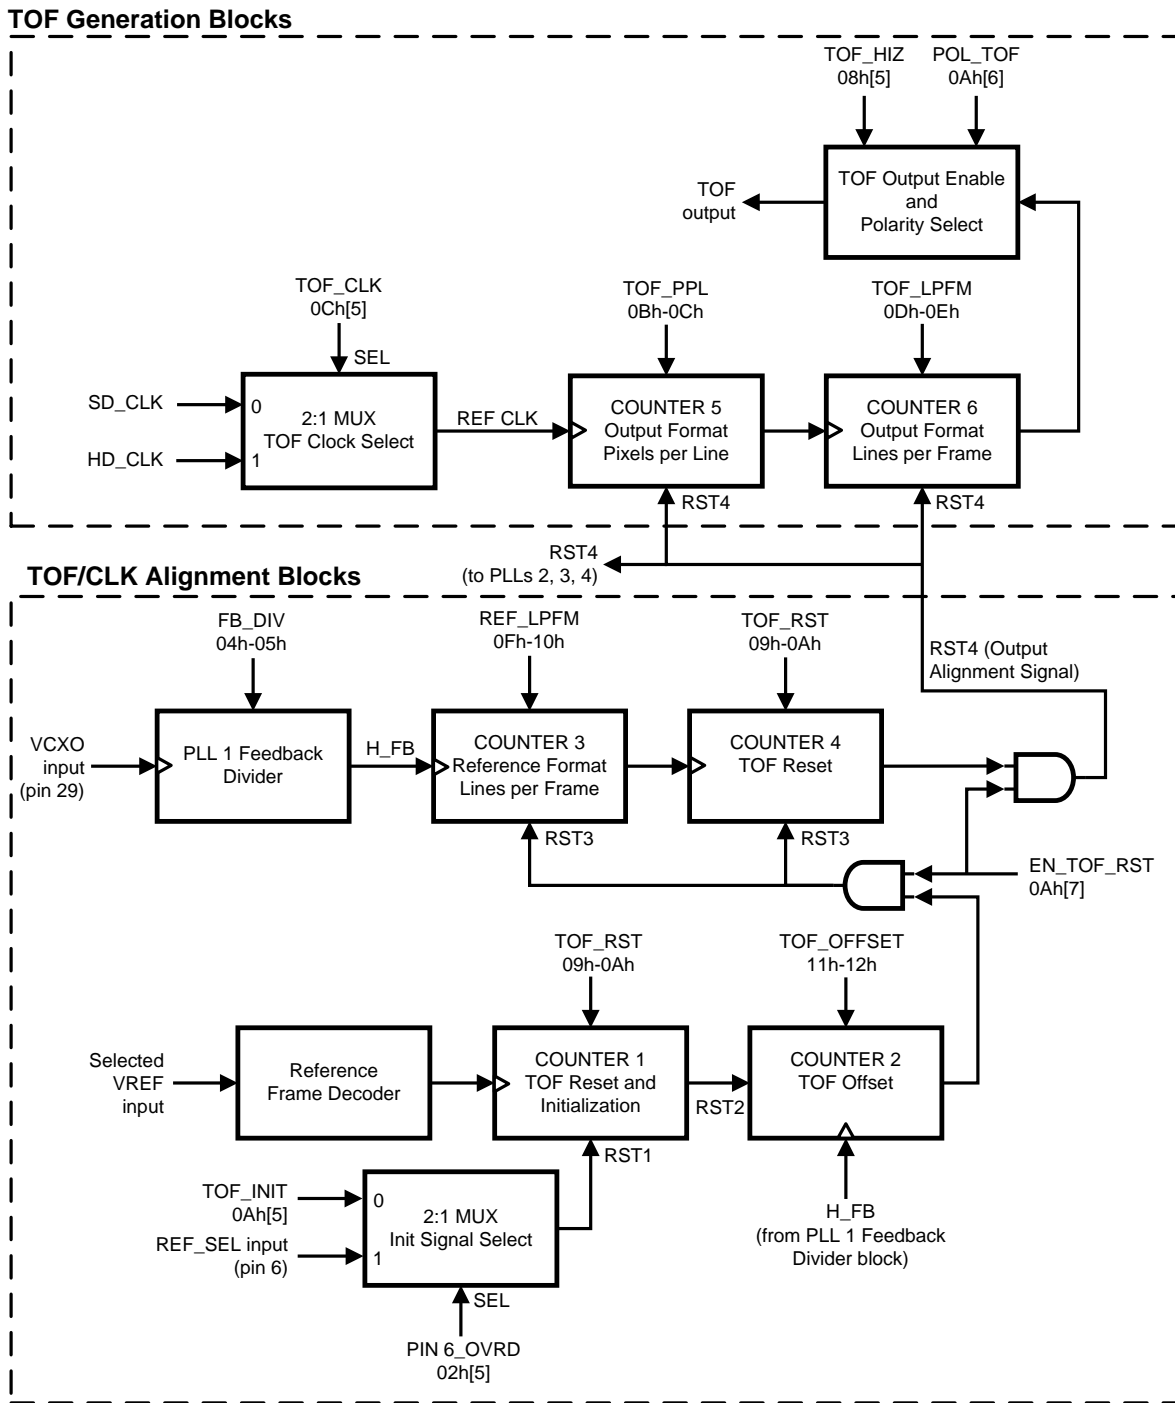

Figure 9. Functional Block Diagram – TOF Generation and Output Initialization Circuitry
When PLL 1 is stable and locked to the input reference, the output format timing should be specified. The functional block diagram for TOF generation and output initialization is shown in Figure 9.
The TOF pulse is derived from a counter chain, which receives either output clock (SD\_CLK or HD\_CLK) from a 2:1 MUX block, as shown in Figure 9. The TOF clock from the MUX can be selected by programming TOF\_CLK (register 0Ch). To select SD\_CLK as the TOF clock, set TOF\_CLK = 0; otherwise, set TOF\_CLK = 1 to select HD\_CLK. The selected TOF clock frequency is determined by the SD\_FREQ or HD\_FREQ register setting.
The TOF pulse is specified by programming TOF\_CLK, TOF\_PPL (register 0Bh-0Ch) and TOF\_LPFM (register 0Dh-0Eh). These registers configure the 2:1 MUX and output pixel and line counters in the TOF Generation blocks shown in Figure 9. The output frame or TOF pulse rate is determined by:
Using for HD output formats can result in TOF output delay being offset by more than one TOF clock period, even after output initialization. This is because the very short period of the HD native clock yields little timing margin for the reset signals to propagate through the internal logic in Figure 9. For example, using a TOF clock of 148.5 MHz gives less than 6.7 ns (< 1 clock cycle) for all the logic to completely synchronize and ensure proper output initialization.
If the alternative set of divider and REF\_LPFM values are programmed per (1) for a lower PLL 1 phase comparison frequency, then the output frame cannot be offset to any horizontal line of the reference. Instead, the output frame can only be aligned to the reference in 5 lines steps per 1 step of the TOF\_OFFSET value, up to a maximum of reference's total lines per frame divided by 5 (i.e. REF\_LPFM). This is because the phase comparison frequency (H\_FB signal in Figure 9) will be lower than the H sync input frequency by 5x due to the use of the alternative divider values.